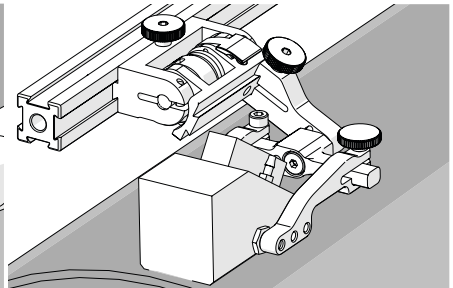

Fig. 38 - Spring loaded scan position
4. Gently lower probe holder and wedge to the scanning surface (Fig. 38).